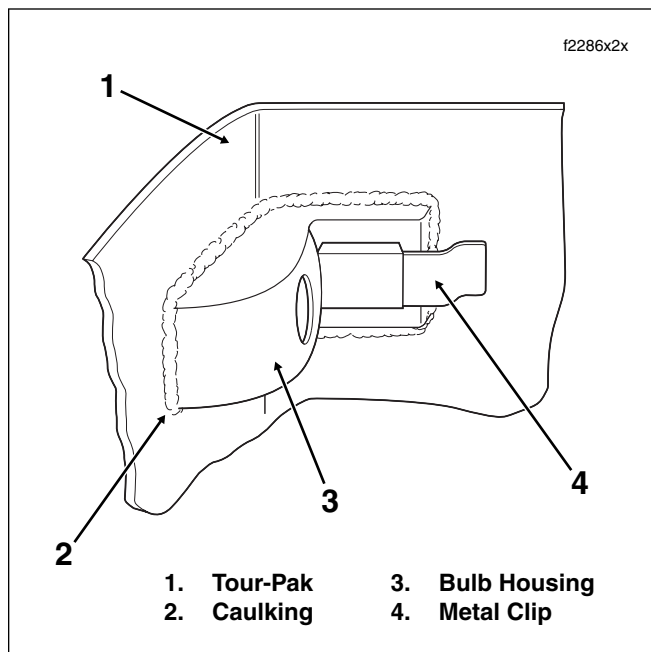

Figure 2-157. Wrap-Around Light Assembly
10. Remove caulking from around light bar. Remove four flange nuts and metal clips to free light bar from Tour-Pak. See Figure 2-157.
1. Install light bar, metal clips and flange nuts to secure light bar to Tour-Pak. Inside Tour-Pak, use RTV silicone sealer (Part No. 99710-88) to seal perimeter of light bar. See Figure 2-157.